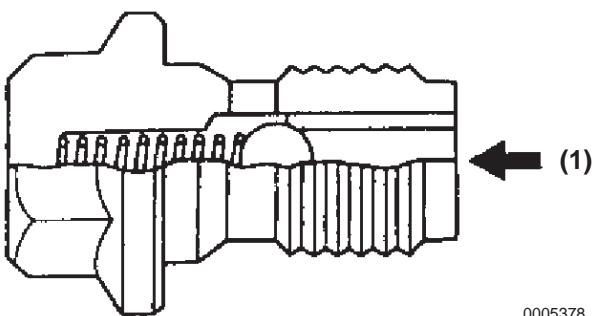

Figure 8-26
2. Inspect the check valve by pressing (**Figure 8-26, (1)**) the valve with a wooden stick to check for sticking. If the valve sticks, replace the relief valve.